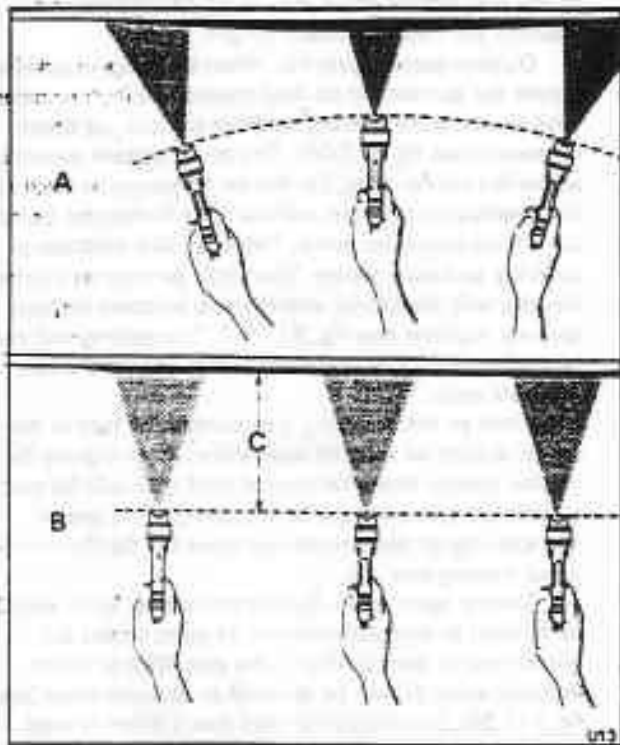

Fig. S17-29 Arcing the spray gun
1. Arcing the spray gun (see fig. S17-29). This is brought about by keeping the wrist rigid so that the gun is not pointing directly at the surface throughout the stroke. The result is an uneven coating and excessive overspray at each end of the stroke caused by the paint being deflected from the surface into the air. When the gun is arced through 45° from the centre, approximately 65% of the paint is lost, most of it creating spray fog.